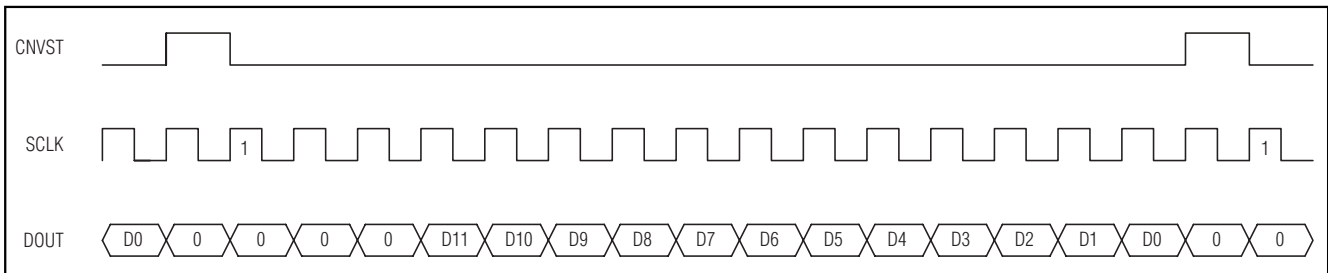
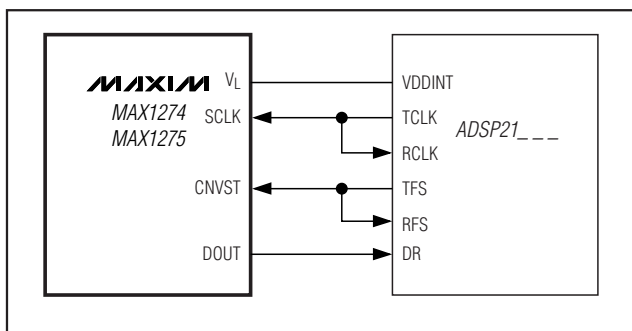

Figure 17. DSP Interface—Continuous Conversion
Figure 19. Interfacing to the ADSP21\_...
The MAX1274/MAX1275 can also be connected to the TMS320C54\_ by using the data transmit (DX) pin to drive CNVST and the CLKX generated internally to drive SCLK. A pullup resistor is required on the CNVST signal to keep it high when DX goes high impedance and 0001hex should be written to the DXR continuously for continuous conversions. The power-down modes may be entered by writing 00FFhex to the DXR (see Figures 17 and 18).
The MAX1274/MAX1275 can be directly connected to the ADSP21\_ \_ \_ family of DSPs from Analog Devices, Inc. Figure 19 shows the direct connection of the MAX1274/MAX1275 to the ADSP21\_ \_ \_. There are two modes of operation that can be programmed to interface with the MAX1274/MAX1275. For continuous conversions, idle CNVST low and pulse it high for one clock cycle during the LSB of the previous transmitted word. The ADSP21\_ \_ \_ STCTL and SRCTL registers should be configured for early framing (LAFR = 0) and for an active-high frame (LTFS = 0, LRFS = 0) signal. In this mode, the data-independent frame-sync bit (DITFS = 1) can be selected to eliminate the need for writing to the transmit-data register more than once. For single conversions, idle CNVST high and pulse it low for the entire conversion. The ADSP21\_ \_ \_ STCTL and SRCTL registers should be configured for late framing (LAFR = 1) and for an active-low frame (LTFS = 1, LRFS = 1) signal. This is also the best way to enter the power-down modes by setting the word length to 8 bits (SLEN = 1001). Connect the  $V_L$  pin to the ADSP21\_ \_ \_ supply voltage when the MAX1274/MAX1275 are operating with a supply voltage higher than the DSP supply voltage (see Figures 17 and 18).